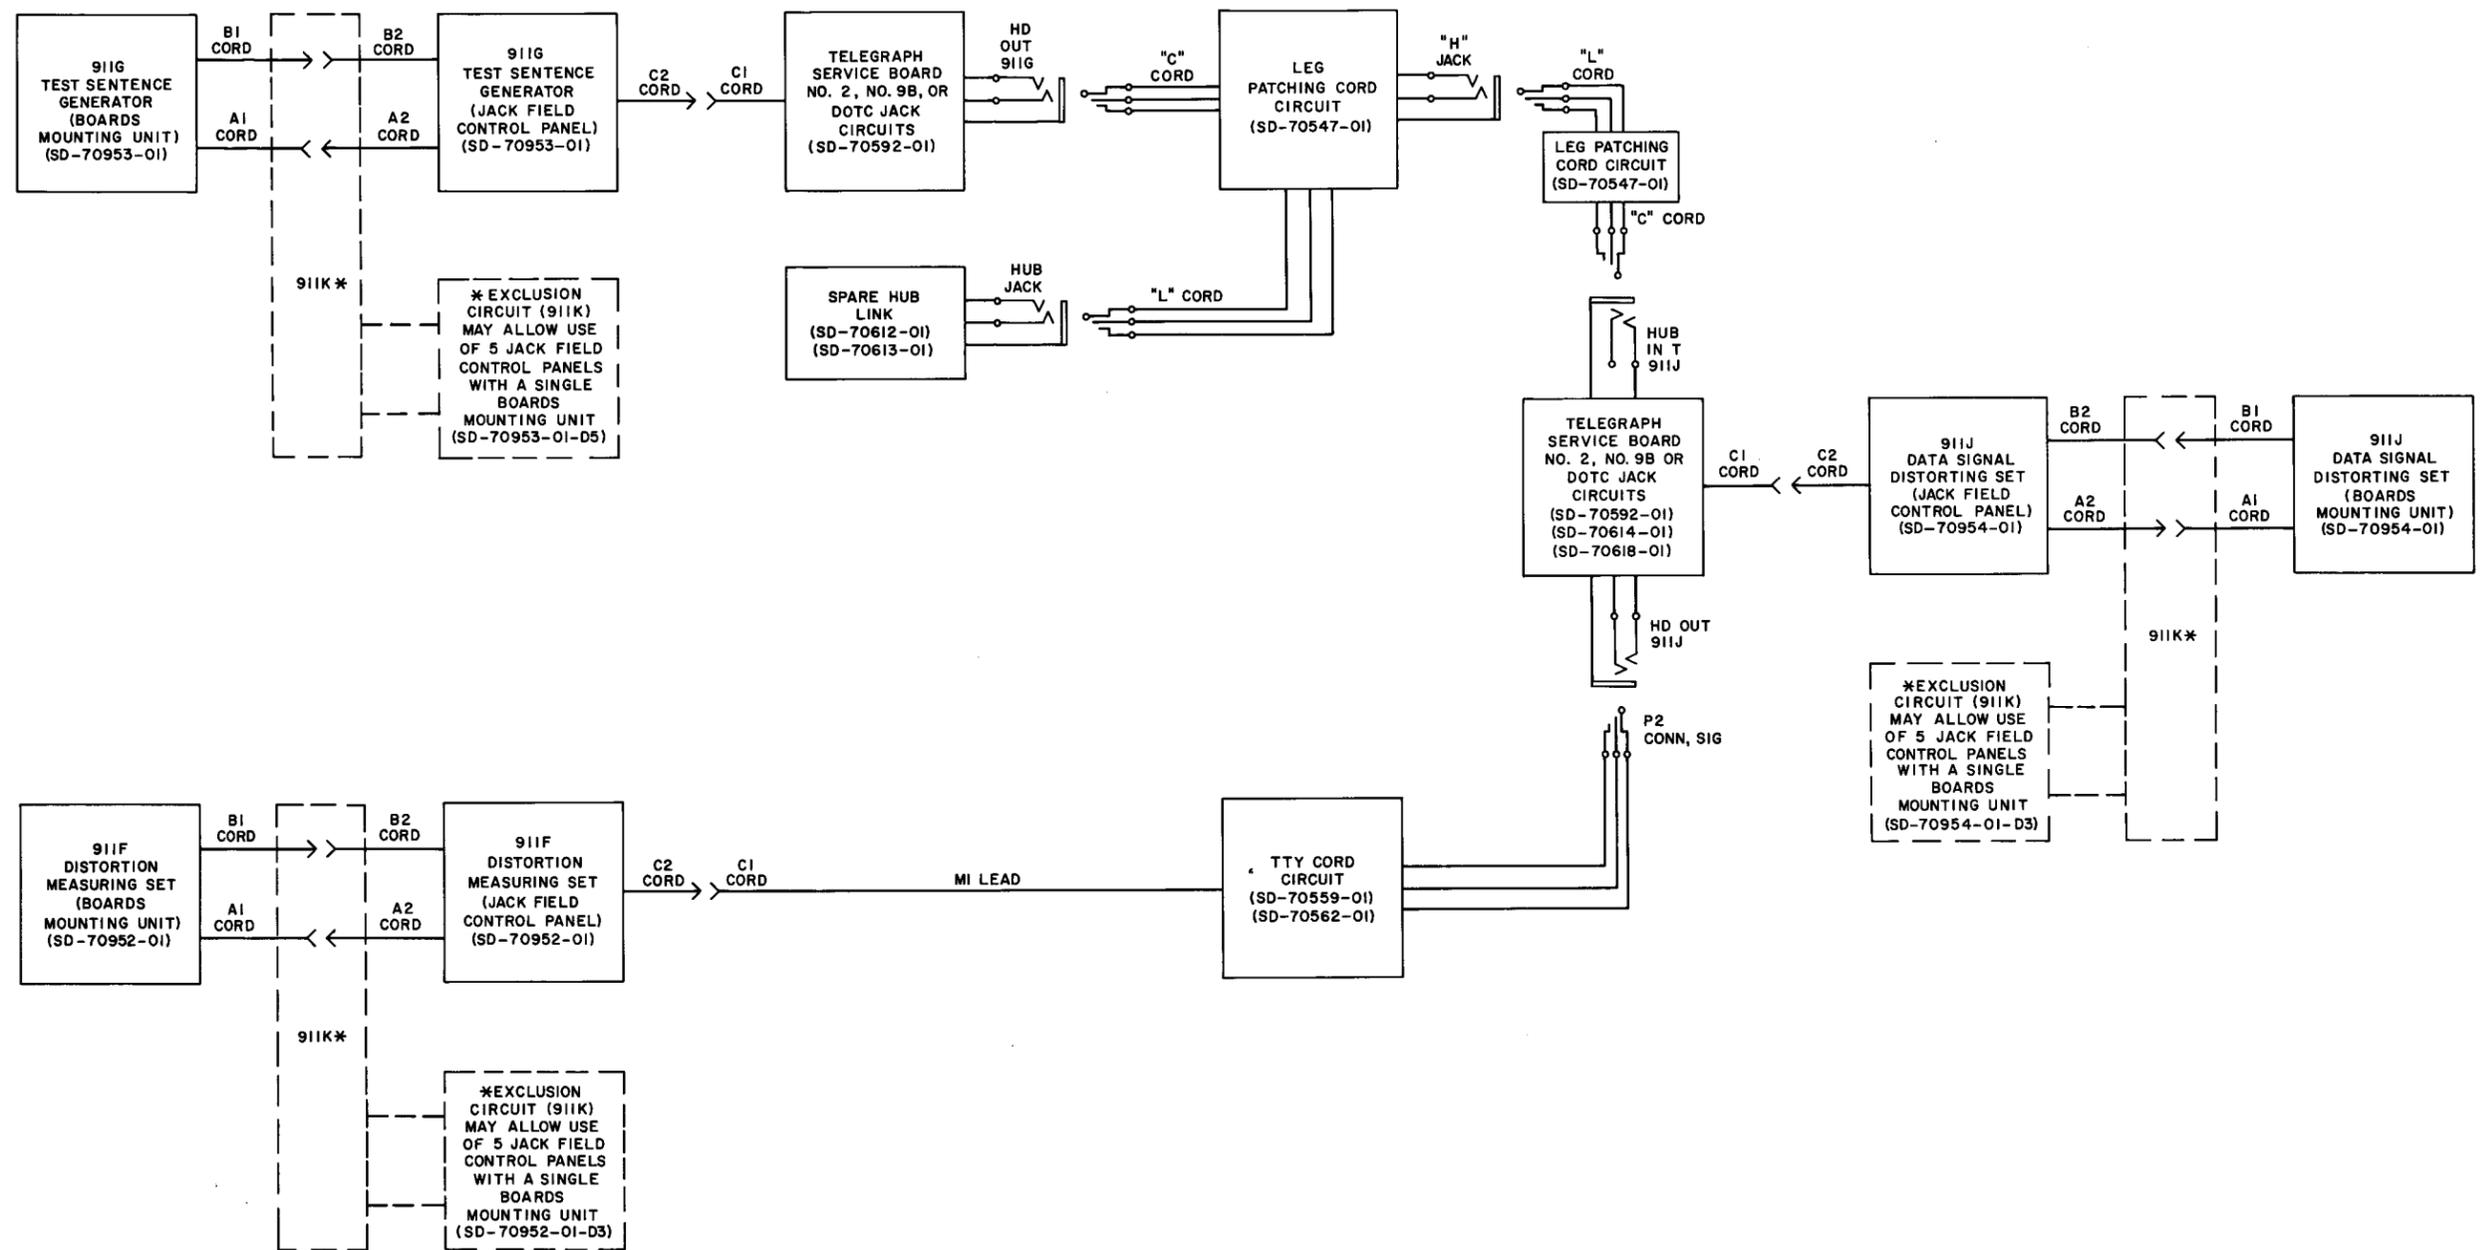

Fig. 1—911J Data Signal Distorting Set—Test Connections
2.02 Connect the test circuit as shown in Fig. 1.